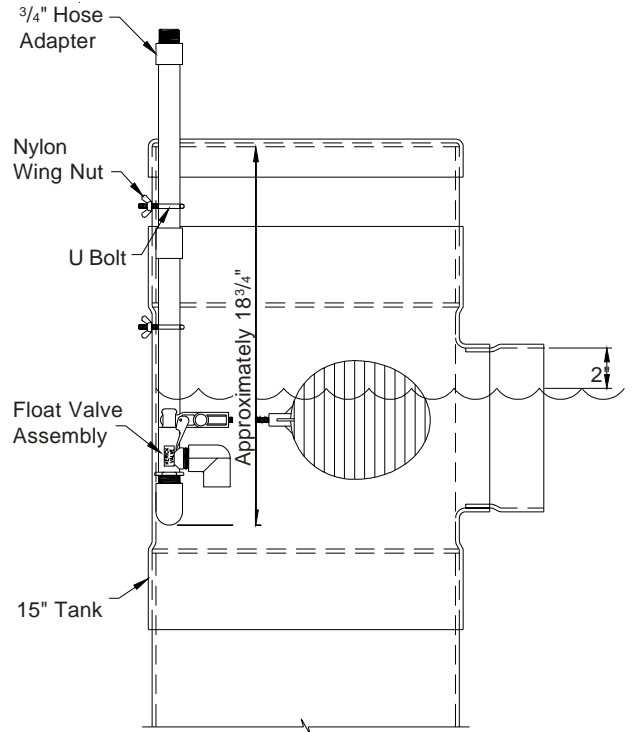

Figure 22E
- 6) Installation complete. If a higher water level is needed, loosen wing nuts and raise float assembly and retighten wing nuts. If lower level is needed, lower assembly. **See Figure 22E** for completed assembly.